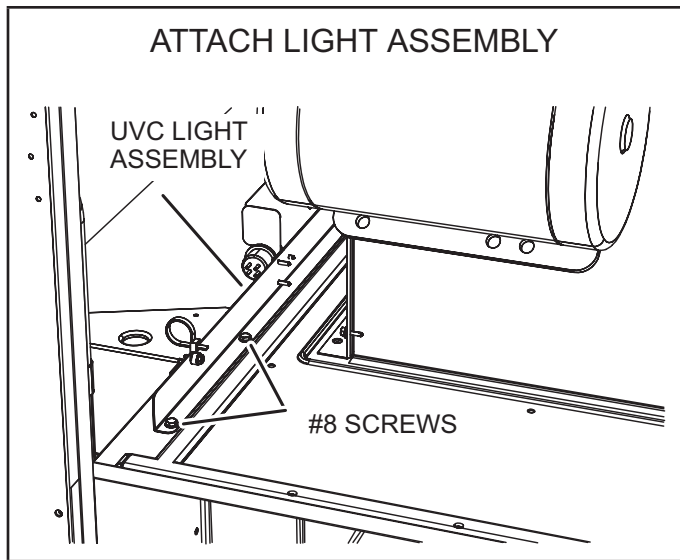

FIGURE 30
- 8 - Carefully place the UVC assembly on the blower deck. Line up the mounting holes on the UVC assembly with the mounting holes on the blower deck. See FIGURE 30. Use the #10 screws provided to attach the UVC assembly in place.